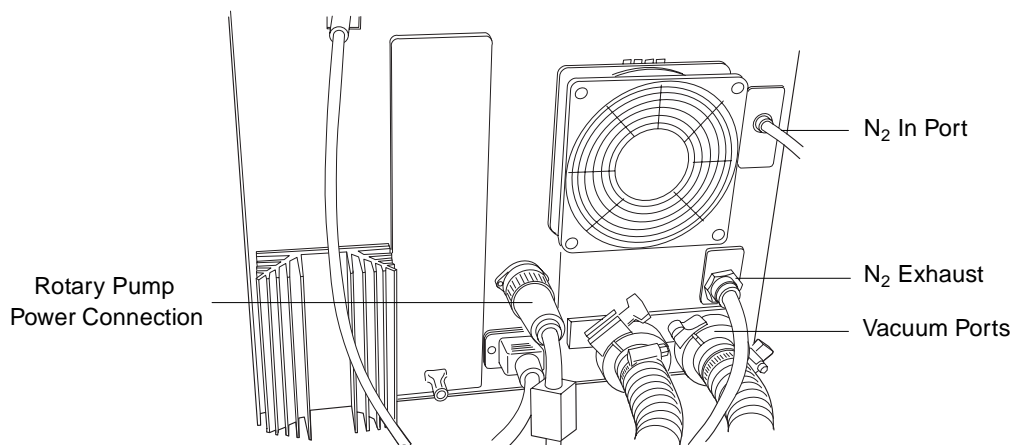

Figure 2-4 ZQ Detector Rear Panel
1. Connect one end of a length of the 6-mm PTFE tubing to the N2 In port on the rear of the instrument (Figure 2-4).